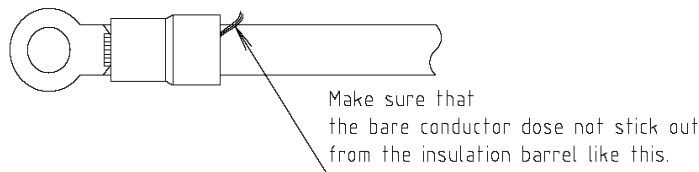

FIGURE 2-20
- c. Refer to **Figure 2-20**. Insert the bare conductor into the crimping terminal PS2-4.